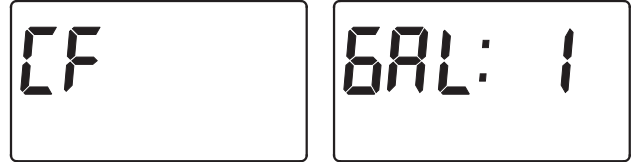

FIG. 38
4. **CHEMICAL FEEDER TRIP VOLUME:** If you have set the auxiliary output control to CF (Chemical Feeder), you will need to set the volume of water which must flow past the turbine* before the auxiliary output is turned on. With the alternating screens in Fig. 38 shown, use the ↑ UP or ↓ DOWN buttons to set the trip volume, in gallons. Then press the SELECT button to display the screen shown in Fig. 39.